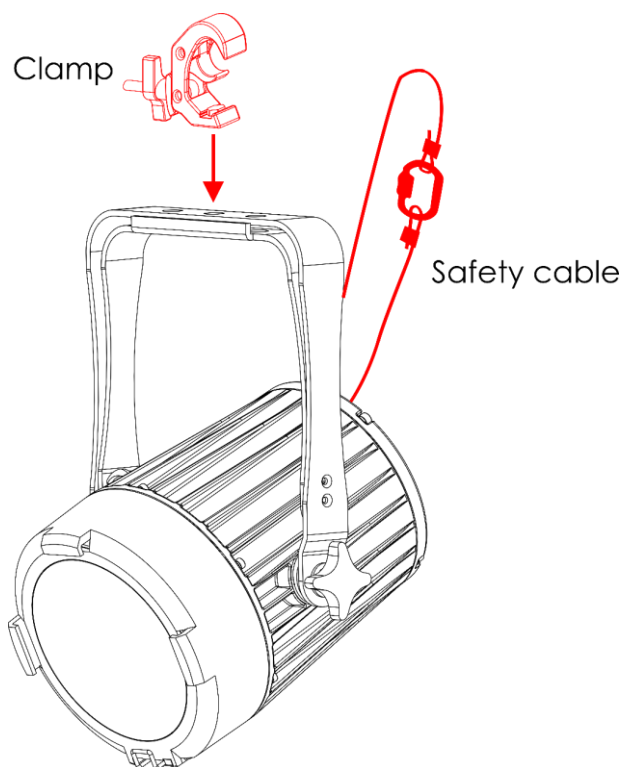

Fig. 08
- 01) Use a clamp to attach the device to the supporting structure, as shown in Fig. 08. Make sure that the device cannot move freely.
- 02) Secure the device with a secondary suspension, for example a safety cable. Make sure that the secondary suspension can hold 10 times the weight of the device. If possible, the secondary suspension should be attached to a supporting structure independent of the primary suspension. Put the safety cable through the **safety eye (08)**, as shown in Fig. 08. You can use the safety cable supplied with the device.